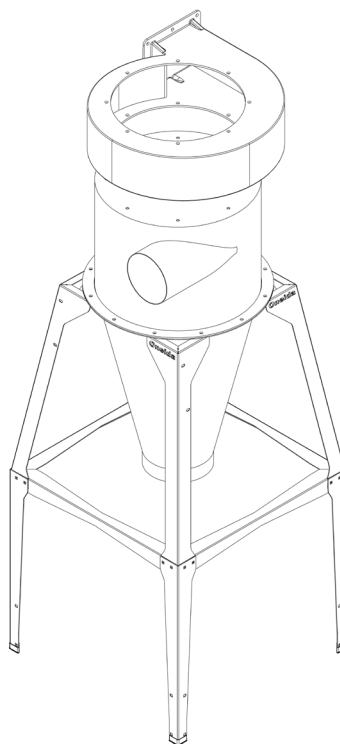

FIG. 6
- 6** Lift the Fan Housing (B) onto the Barrel (C), making sure it is oriented so that the molded “UP” text is visible. Align the housing’s holes with the holes in the barrel and keep in mind the direction you want your outlet to face. [FIG 6].